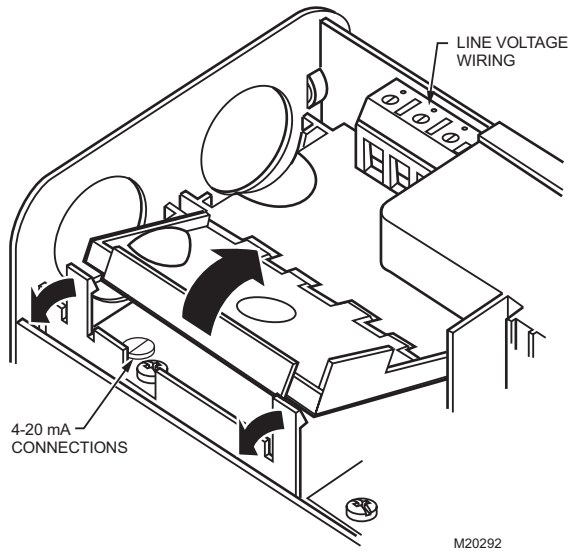

Fig. 5. Opening ML7999B low-voltage wiring compartment
2. Pull back the snap-locks while opening the low-voltage wiring compartment. See Fig. 5.